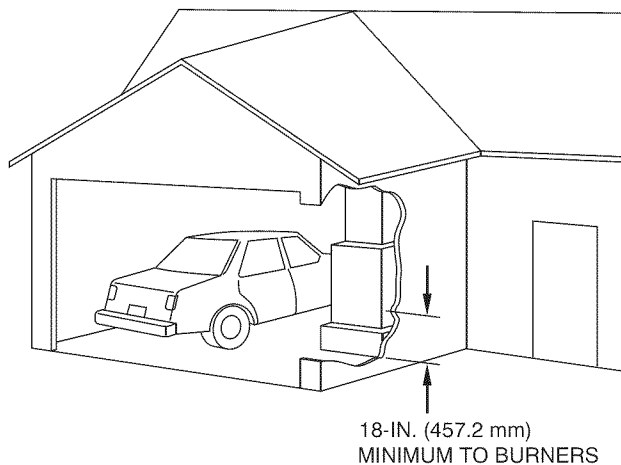

Fig. 18 - Installation in a Garage
When furnace is installed in a residential garage, it must be installed so that burners and ignition sources are located a minimum of 18 in. (457 mm) above floor. The furnace must be located or protected to avoid physical damage by vehicles. When furnace is installed in a public garage, airplane hangar, or other building having a hazardous atmosphere, unit must be installed in accordance with requirements of National Fire Protection Association, Inc. (See Fig. 18.)
2. Fig. 18 illustrates how to provide **TWO OUTDOOR OPENINGS**, one inlet and one outlet combustion and ventilation air openings to the outdoors.